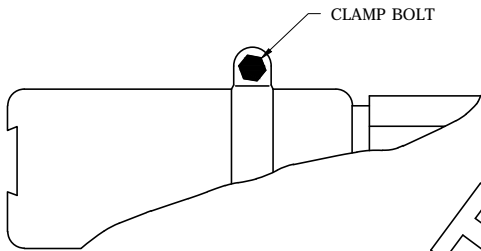

FIGURE 2
- STEP 2 LOOSEN CLAMP BOLT AND PRY CLAMP APART SLIGHTLY. (SEE FIG. 2)